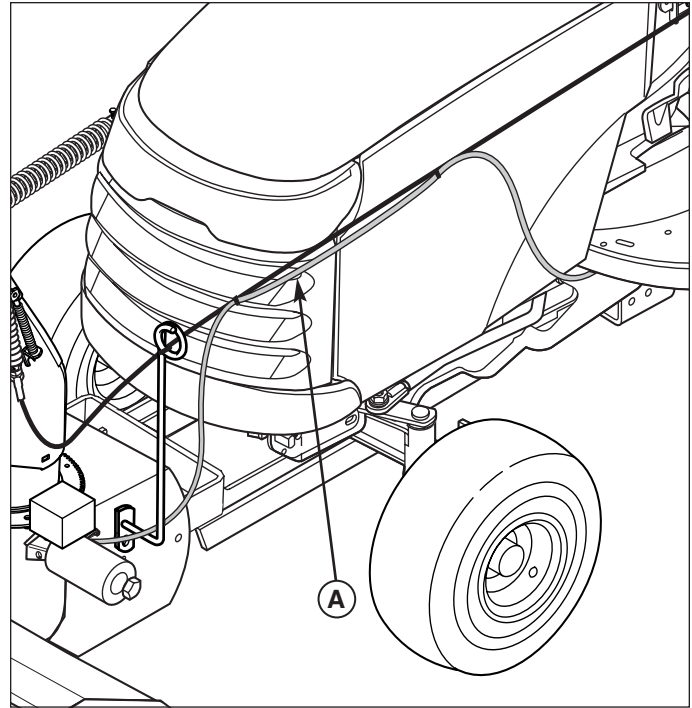
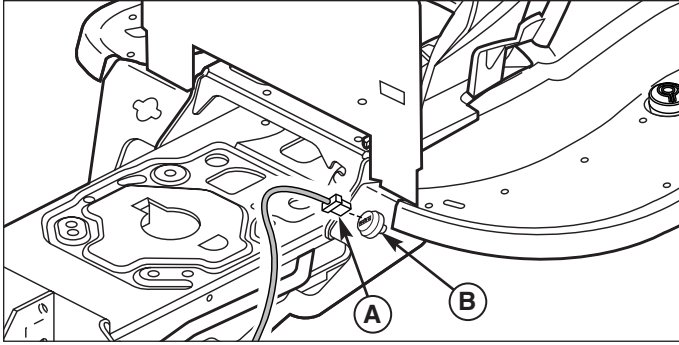

Figure 28. Rotator Motor Electrical Connection (Left Side Mount)
Figure 30. Rotator Motor Electrical Connection
6. Route the wire harness (A, Figure 28) along the remote deflector control cable and secure with two wire ties. Connect the chute rotator harness plug (A, Figure 30) to the tractor plug (B). Make certain it will not be caught any linkages or moving parts.